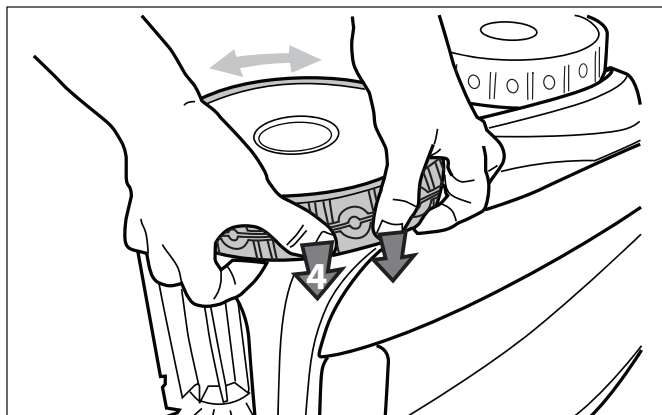

Figure 38. Push the Tire into Place on the Wheel
6. Push and position the rib of the inner side of the tire in the groove of the wheel. Refer to Figure 38. If needed, turn the wheel gently to help with installation.